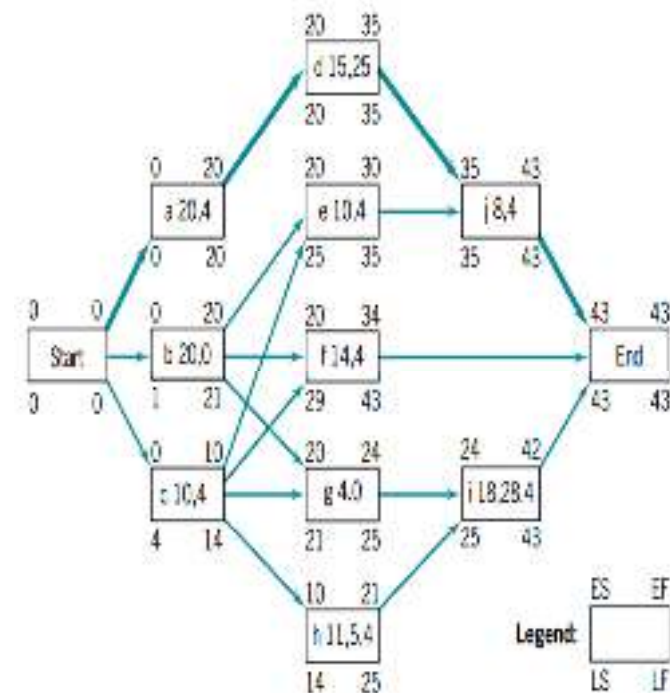

Figure 8-16 AOA network showing earliest and latest start and finish times, and critical path.
If we start the project on day 0, shown as ES (earliest start) at the upper left of each node in Figure 8-16, we can begin simultaneously working on activities a, b, and c, each of which has no predecessor activities. We will complete activity a in 20 days, activity b in 20 days, and activity c in 10 days, shown as EF (earliest finish) at the upper right of each of their respective nodes. These early finish times represent the earliest times that the following activities can begin.
As can be seen, the longest of the paths through the network is a-d-j using 43 days, which means that 43 days is the shortest time in which the entire network can be completed. This is called the critical time of the network, and a-d-j is the critical path, usually shown as a heavy line as in Figure 8-16.
Refer again to Figure 8-16. The project has a critical time of 43 days. Activity i must therefore be finished by day 43, indicated by LF (latest finish time), placed at the bottom right of its node. Also, activity i requires 18 days to be accomplished. Therefore, i must be started no later than day 25 ($43 - 18 = 25$) if the project is to be complete on day 43. The LS for activity i is thus 25, placed at the lower left corner of the node. Because i cannot begin until activities g and h have finished, the latest time (LF) for each of these is also day 25. The difference between the LS and the ES for an activity is called its float or slack. In the case of activity i, it must be started no later than day 25, but could be started as early as day 24, so it has one day of slack. **It should be immediately obvious that all activities on the critical path have zero slack.** ***Zero slack activities cannot be delayed without making the project late***